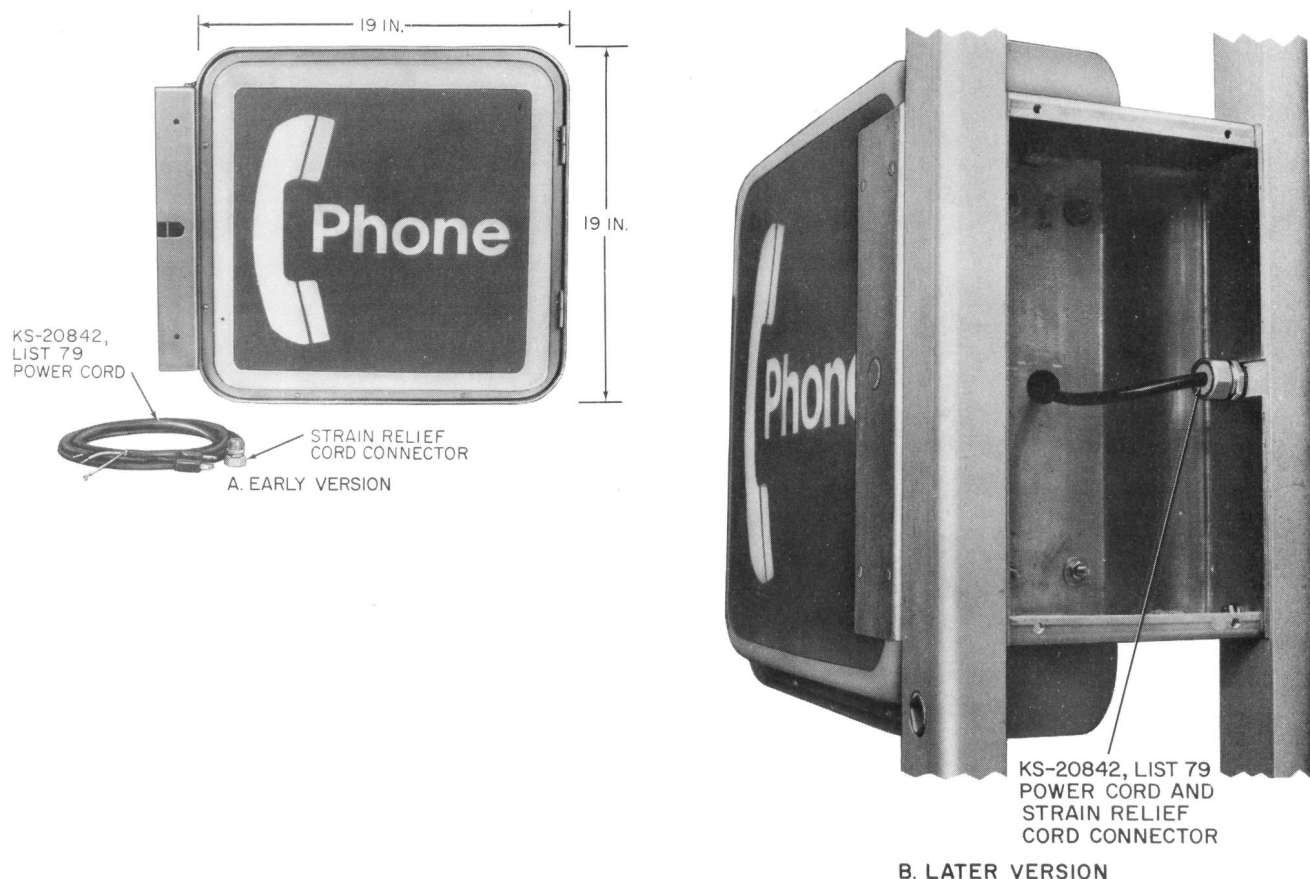

Fig. 6—♦KS-20135, List 3 Sign♦
1.01 This section contains information on KS-16422 (Fig. 1), KS-19322 (Fig. 2 and 3), KS-19681 (Fig. 4), KS-20031 (Fig. 5), and KS-20135 (Fig. 6) illuminated type phone signs.
2.19 The KS-20135 sign (Fig. 6) is a double-sided sign designed for mounting on telephone booths, masts, and wall mountings.